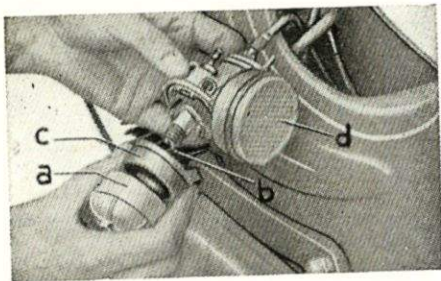

Fig. 16
- 3) Unscrew nozzle b, fig. 16, by means of a screw driver;